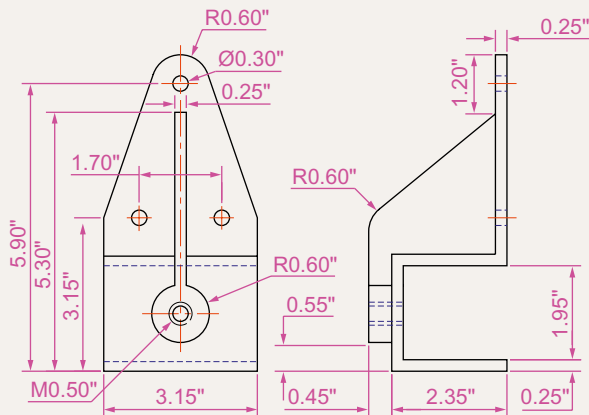

Fig. 12.49 Exercise 6
6. Construct a 3D solid model of a bracket working to the information given in Fig. 12.49.